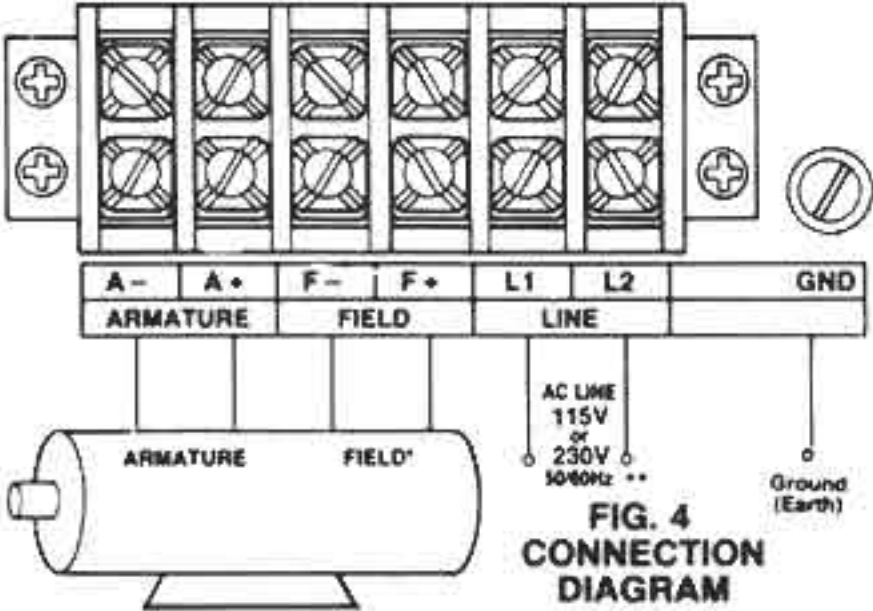

FIG. 4
- (1) Slide open front cover by removing two 6-32 screws.
- (2) Install Plug-In Horsepower Resistor® corresponding to motor voltage and horsepower. (See chart Table 3, page 3)
- (3) Set the Dual Voltage Switch to proper position "115" or "230" which corresponds to the nominal AC input line voltage 120 or 240 VAC.
- (4) Install proper Armature fuse according to Fuse Selection Chart. (Table 6, page 8)
- (5) Trimpots have been factory adjusted. If readjustment is required see section IV pages 9 & 10.
- (6) Install Auxiliary Heatsink if motor is larger than 3/4 HP on 120 VAC and 1-1/2 HP on 240 VAC. (Use (6) No. 10-32 screws)
**C. Wiring.** (See Fig. 4 for terminal arrangement and wiring information.)
- (1) Connect the Multi-Drive® to a standard 120 V or 240 V 50/60 Hz power source. [Be sure the DVS is set to the proper voltage "115" or "230" and motor voltage corresponds to the line voltage. (e.g. 90-130 VDC motor on 115-120 VAC and 180 VDC motor 230-240 VAC)]
- (2) Follow the recommended supply wire sizes as per Table 5. (For Stepdown operation see note on page 8.)
- (3) Follow the NEC and other appropriate electrical codes. **CAUTION:** Separate branch protection must be provided on 240 V circuits.
- (4) Replace front cover and the two 6-32 screws.